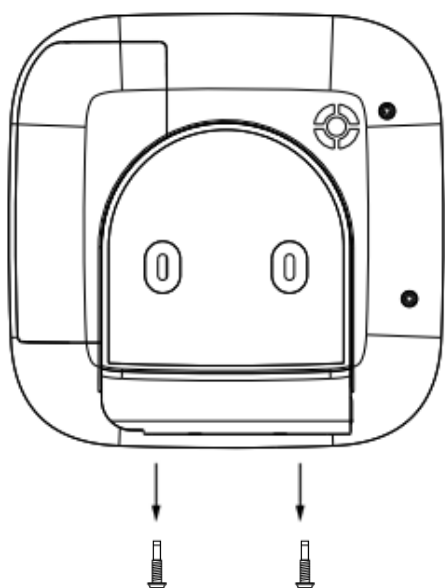

Figure 1
- 1 Remove the 2 screws that secured the panel casing to the mounting bracket. (Figure 1)